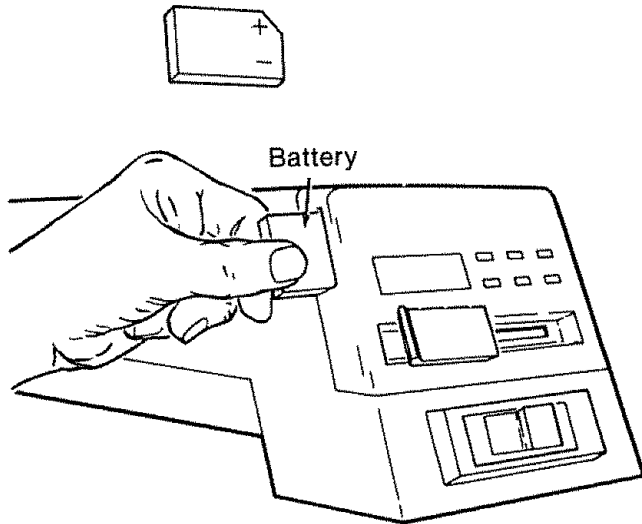

Fig. 95 - Installing the Battery
1. Slide the *battery* into the opening behind the digital display with the angled corner on top. (Figure 95)